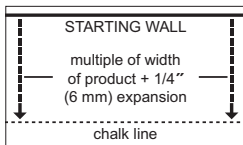

Figure 6
- In at least two places, at least 18" (46 cm) from the corner, measure out equal distance from the starting wall (Figure 6) and snap a chalk line. The measurement must be a multiple of the width of the flooring plus an additional 3/8" (9.5 mm) to allow for 1/4" (6 mm) expansion space and the width of the tongue. Allow 1/2" (13 mm) expansion when installing floating floors. Continue to Step 3; Staple or Glue or Floating.